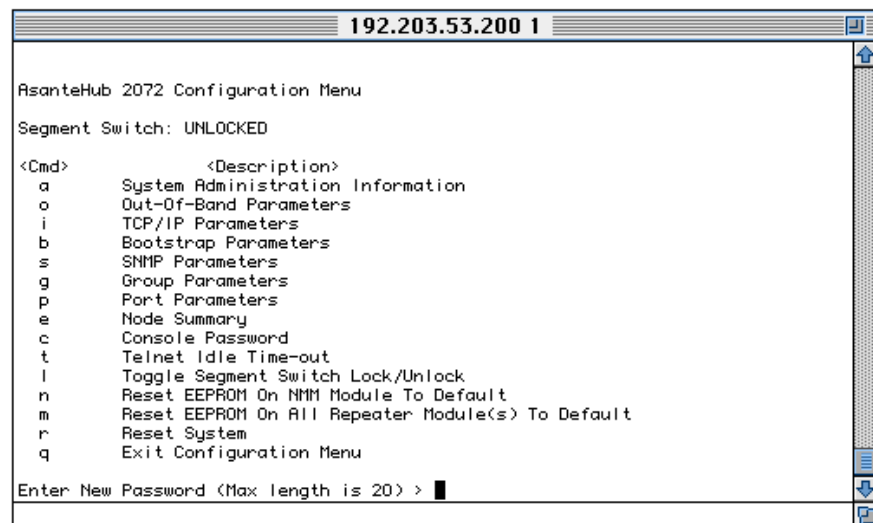

Figure 25 Enter New Password Prompt
- 3** Type **c** for Console Password. The **Command>** line changes to prompt you for the new password, as shown in Figure 25.